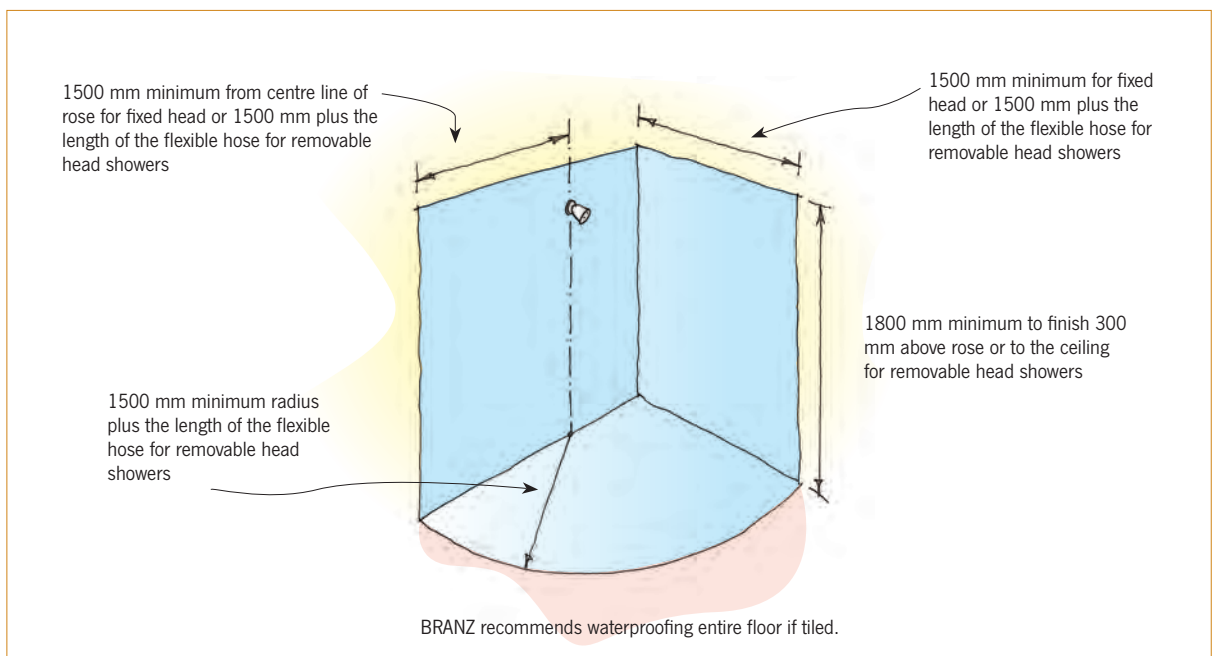

Figure 1: Open shower waterproofing, from E3/AS1.
- In an open shower – to all wall tiles that are within 1500 mm of a fixed showerhead or 1500 mm plus the length of the flexible hose for a removable shower. This may mean that all wall tiles up to the ceiling level within the bathroom area require a membrane. Take waterproofing membrane to ceiling where the showerhead is removable (Figure 1).